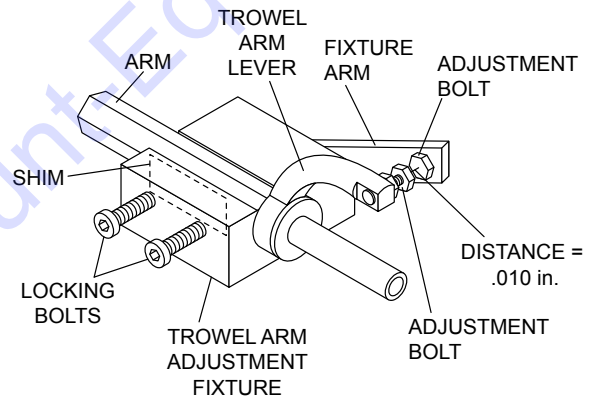

Figure 45. Trowel Arm Adjustment Fixture Components
- Unscrew the locking bolts on the adjustment tool and place the trowel arm into the fixture channel as shown in Figure 45. A thin shim may be required to cover the blade holes on the trowel arm. Make sure to align the trowel adjustment bolt with the fixture adjustment bolt.
- Adjust the bolt "distance" shown in Figure 45 to match one of the arms. The other arms will be adjusted to match this distance.